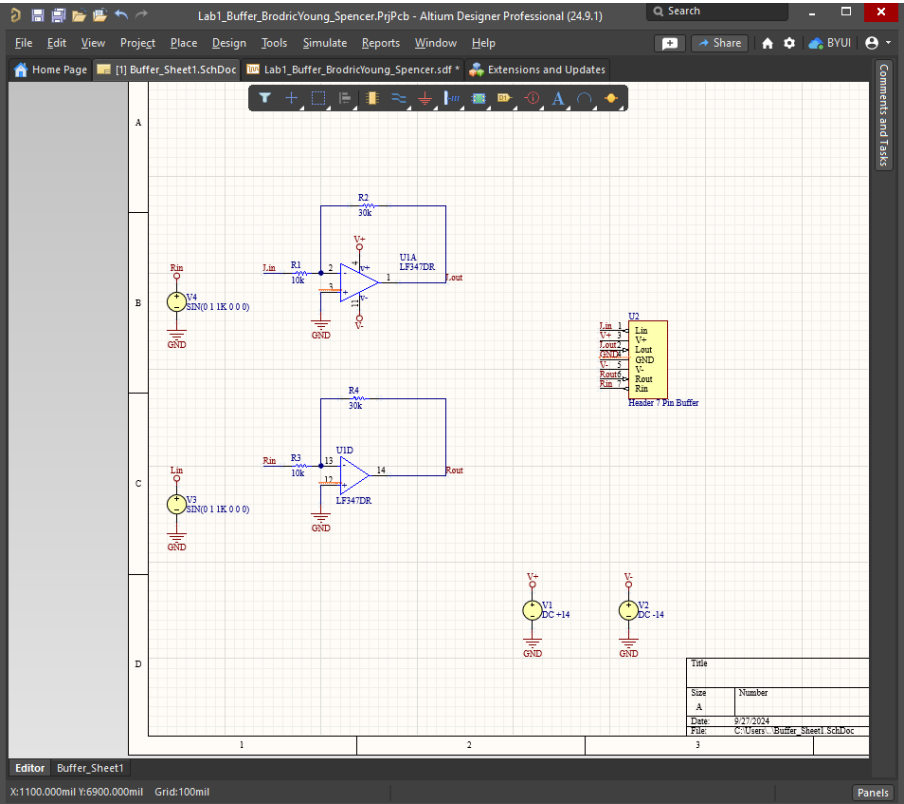

Figure 1, Completed Buffer Schematic
2. We set up the schematic preferences and a grid so that we could start putting together the schematic of a circuit shown in Figure 1 of the lab instructions. This schematic is of an inverting amplifier circuit, but here is being used as a buffer circuit.
3. We built the schematic ourselves by placing components such as voltage sources and resistors on the grid and assigning them names and values. This can be seen below as “Figure 1, Completed Buffer Schematic”.